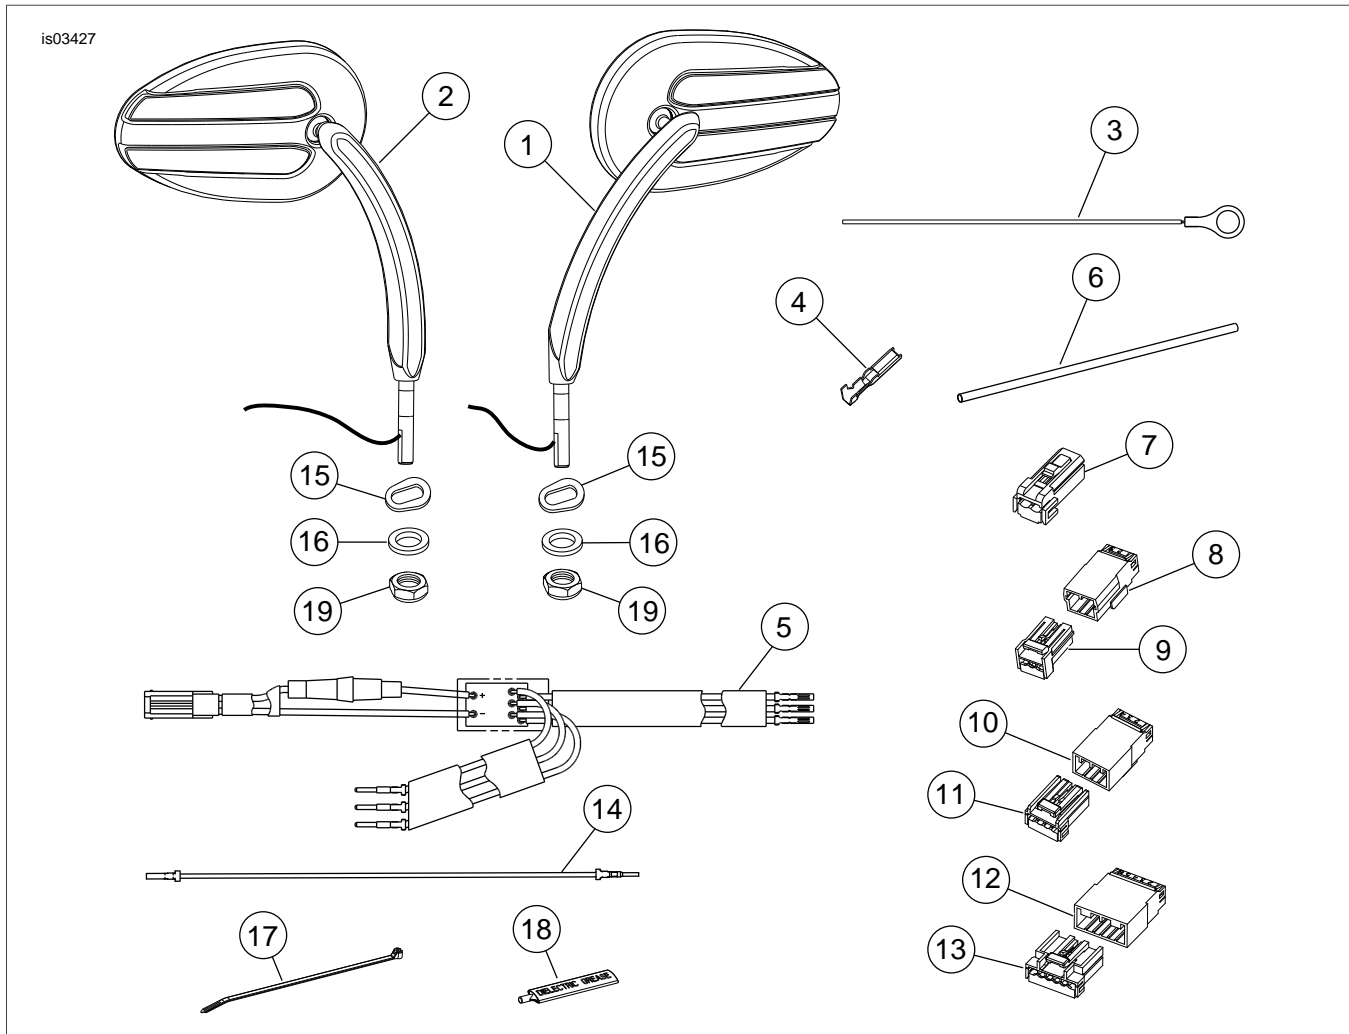

Figure 23. Service Parts: Lighted Mirrors
6. See Figure 15. For models with 4-place multilock connectors, install ends of jumper wire assembly (2) (Figure 23, Item 14) into open cavities in Y-harness connectors.
2. See Figure 23 and Table 2. Locate 6-place multilock connectors (12, 13) and two Y-harness assemblies (5) from kit. Align both Y-harness assemblies together, matching pin terminated wire ends and socket terminated wire ends.
3. See Figure 23 and Table 2. Locate 6-place multilock connectors (12, 13) and two Y-harness assemblies (5) from kit. Align both Y-harness assemblies together, matching pin terminated wire ends and socket terminated wire ends.
3. See Figure 23. Locate 3-place multilock connectors (8, 9) and two Y-harness assemblies (5) from kit.
3. See Figure 23. Slide conduit (6) up mirror power and ground wire leads.
4. Terminate ends of mirror and ground wires with socket terminals (4) from kit using crimping tool. Refer to MULTI-LOCK ELECTRICAL CONNECTORS in Service Manual.
8. Use wire ties from kit (Figure 23, Item 17) to arrange and pack Y-harness wires to minimize environmental exposure.
9. Use wire ties from kit (Figure 23, Item 17) to secure mirror wire conduit to handlebars.